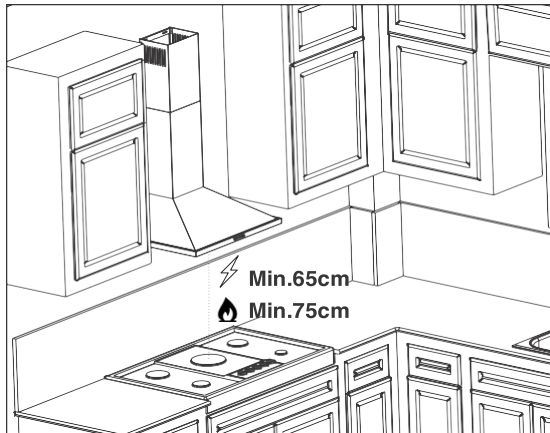
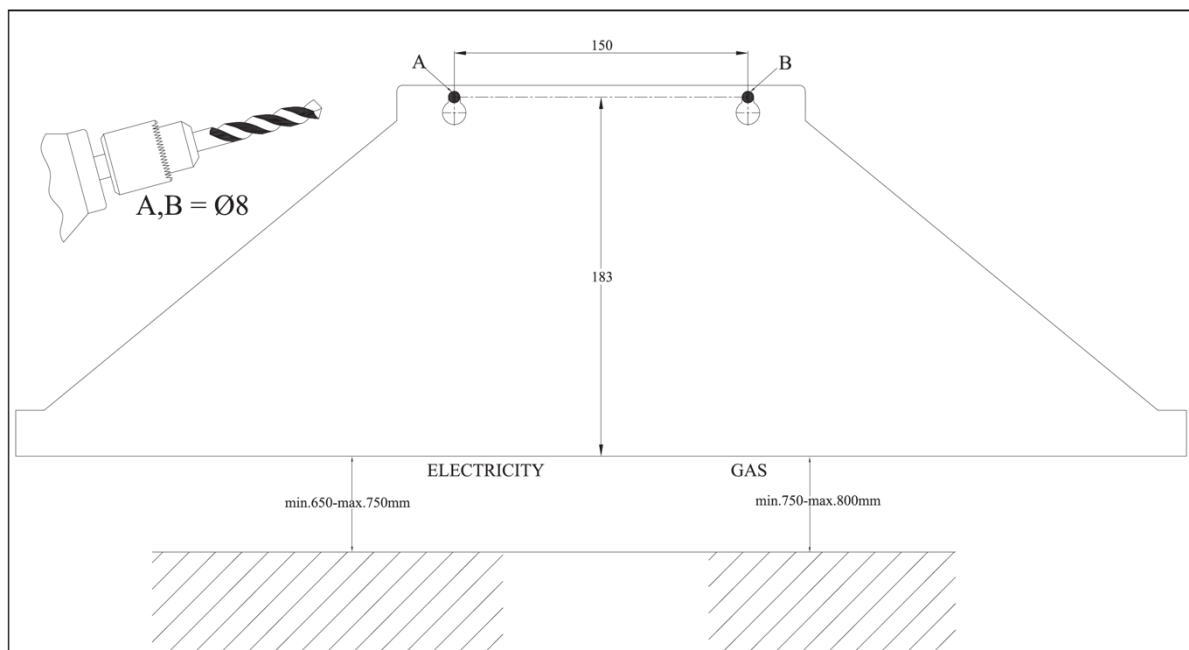

Fig. 8
Fig. 9
The final installed position of the hood must exceed the minimum required distance (Fig. 8).
1. Plan where you want to mount your hood in conjunction with the installation plan (Fig. 9). Make sure you adhere to the minimum height requirement from electric or gas cook tops (Fig. 8).